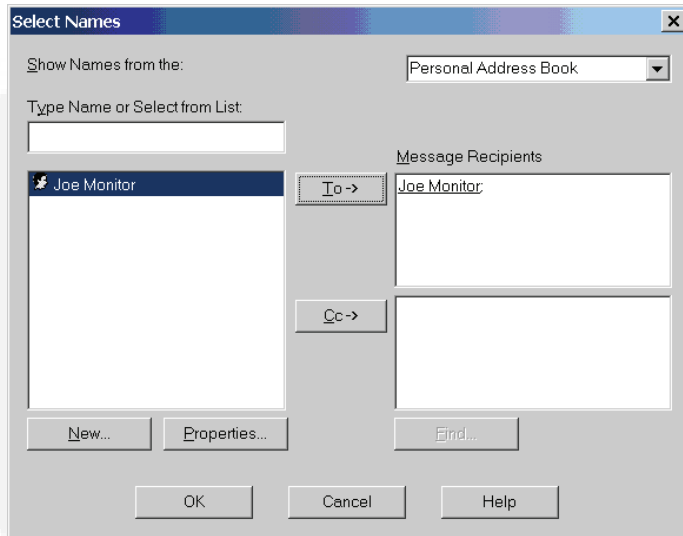

FIGURE 15-30. PERSONAL ADDRESS BOOK
1. From the main WinBEEP window, click on the **To** button, shown under Message, on the left side (Figure 15-3). This will launch the Select Names dialog. Figure 15-30.